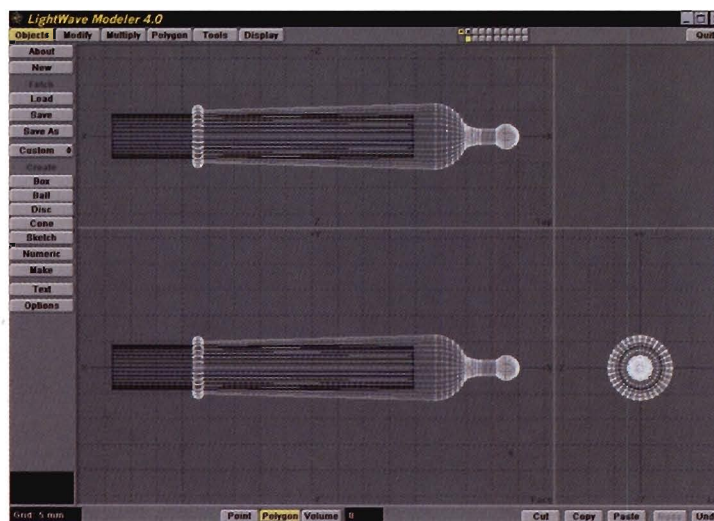

Figure 2
To perform the Boolean Operation we need to flip the layer selection. Do this by hitting (') to flip the layers. Now all that is left to do is perform the operator (Figure 2). Press (B) to bring up the Boolean requester, choose Subtract and then OK. Now, just relax and let the old CPU do the work. To complete the operation, hit (m) for Merge Points. This should eliminate 32 points.